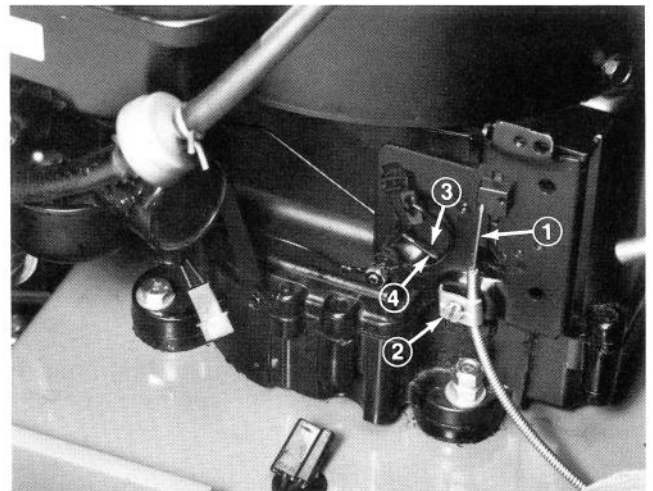

Figure 2
2. Hook wire Z-bend into left side hole of throttle linkage (Fig. 2).
3. Loosen cable clamp screw allowing cable installation, but do not tighten (Fig. 2).